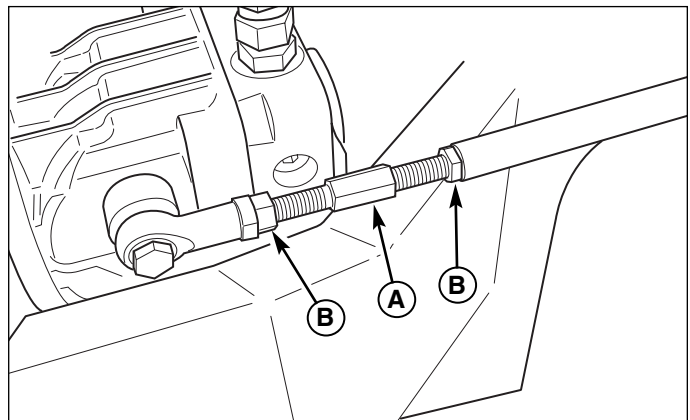

Figure 35. Neutral Adjustment
2. Loosen the jam nuts (B, Figure 35) and turn the adjustment linkage (A) to adjust. If the machine creeps forward, turn the linkage CLOCKWISE (while standing at the rear of the machine, facing forward), if the machine creeps backward, turn the linkage COUNTER-CLOCKWISE.
3. Lock the jam nuts (B) when neutral is achieved.